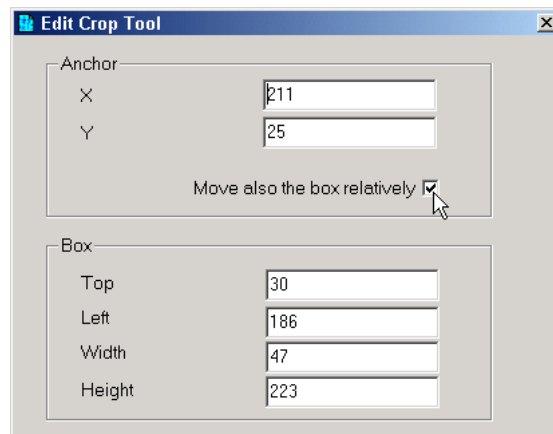

Figure 2-7. Edit Crop Tool
- ✓ You can also use the *Edit* option under the Crop Tool in the toolbar. This opens an *Edit Crop Tool* window as shown in Figure 2-7. Directly modify the values for the anchor and the box dimensions in this window. You can also check the option called *Move also the box relatively* that allows you to change the box position by moving the anchor, while maintaining the same separation distance.